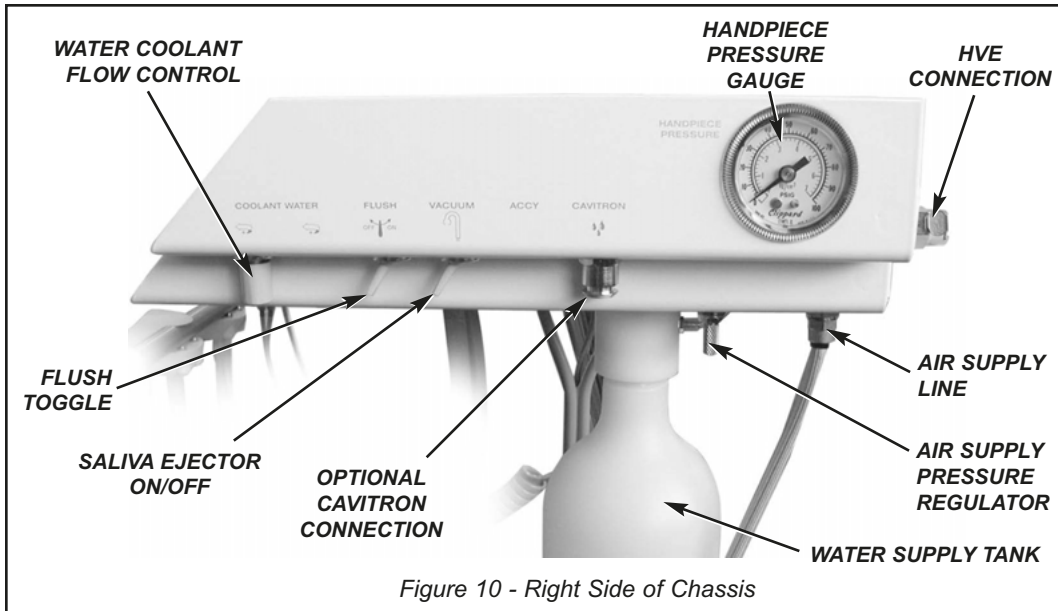

Figure 10 - Right Side of Chassis
5. **PRESSURE GAUGE** (Fig. 10) - The pressure gauge on the right panel gives you a visual indication of the handpiece drive pressure.
6. **WATER COOLANT FLOW CONTROL** (Fig. 10) - Adjusts the flow of water coolant to the handpiece control.
7. **FLUSH TOGGLE** (Fig. 10) - The flush toggle located on the right side of the chassis allows you to quickly and completely flush your handpieces, washing away contaminants which may have accumulated in the handpiece and tubing. You should flush the handpieces for about 5 seconds after every patient, and about 20 seconds at the beginning of each day to reduce overnight bacterial accumulation which may have occurred.